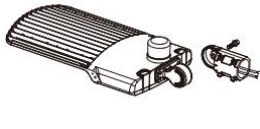
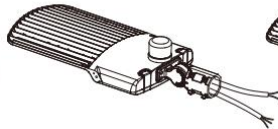

Figure 1
Figure 2
1. ADJUSTABLE FITTER MOUNTING (AM)
Step 1: Remove the bracket mounting screws on the fixture and run the wires through the bracket. (Figure 1) Step 2: Install the bracket on the fixture. (Figure 2)